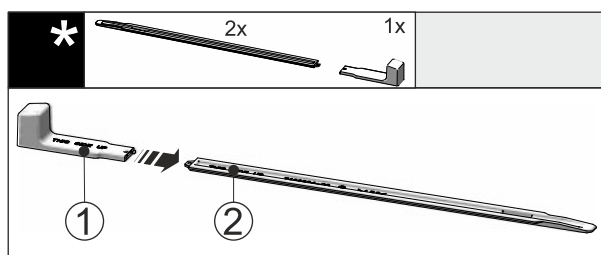

Fig. 45
- Attach the installation handle Fig. 45 (1) to the levelling rail Fig. 45 (2).